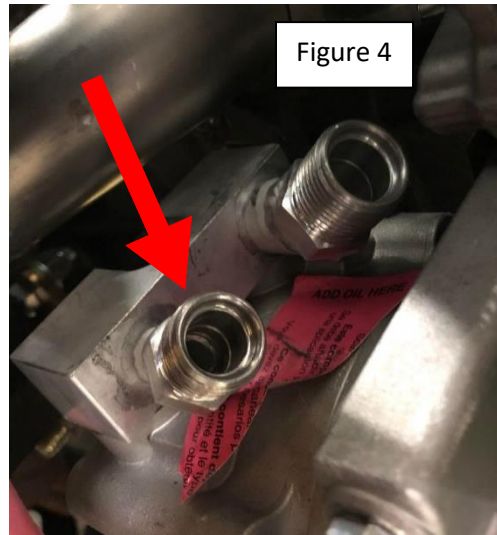
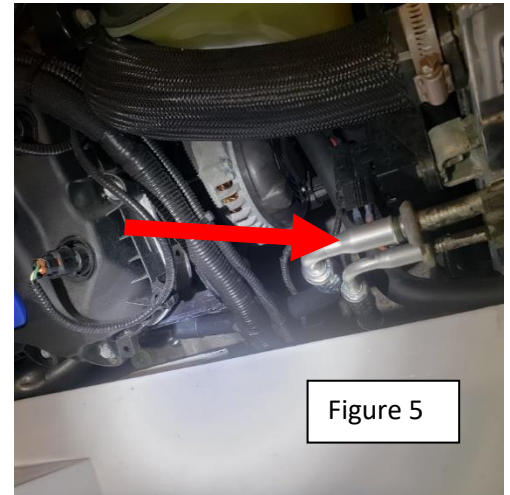

Figure 4
Figure 5
9. Connect the short hose (size 8 markings and the high side service port) to the compressor (Figure 4). Connect opposite end to the top fitting on the condenser, push in until the spring clicks (Figure 5).